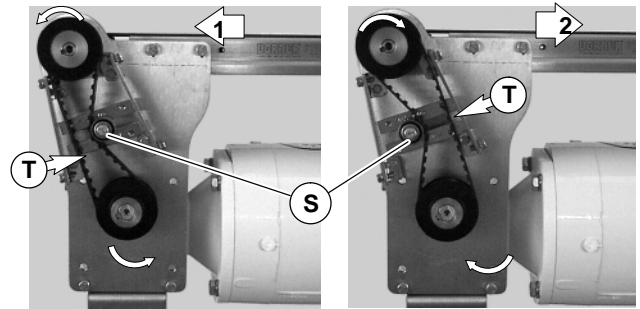

Figure 22
3. Depending on direction of conveyor belt travel (1 or 2 of Figure 22), position belt tensioner (S) as shown. Tension belt to obtain 3mm deflection for 456 grams of force at belt mid-point (T). Tighten tensioner screw to 12Nm.